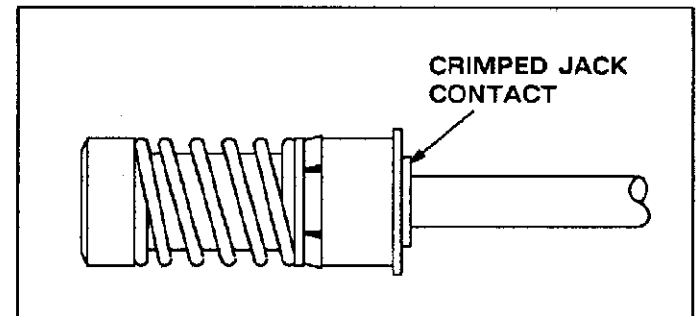

Fig. 7
6. Remove crimped assembly from the hand tool. Properly crimped plug and jack contacts are shown in Figures 7 and 8.